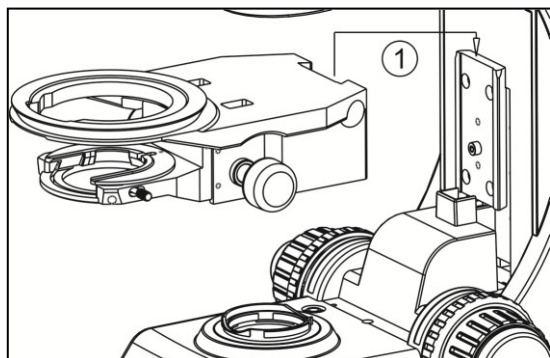
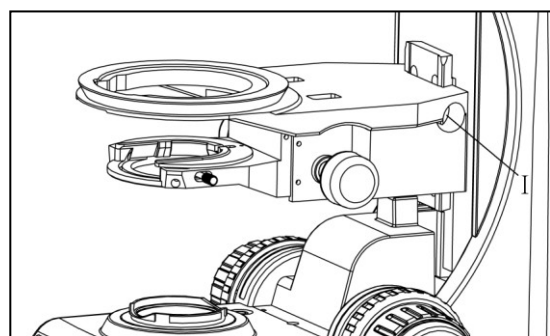

Fig 1
Fig 2
4-2-1 Install the Mechanical Slide Bracket (fig 1, fig 2)
- ★ Install the platform bracket according to the path of ① in figure 1. The dovetail slot needs to align with the slot of platform bracket, sliding it until the screw fix it. Then use the hex wrench tighten the screw shown as I in figure 2.
- ★ Install the mechanical object stage according to the path of number ② in figure 2. First align the object stage's hole center and the bracket circle center, then object stage downward slides the bracket locating ring